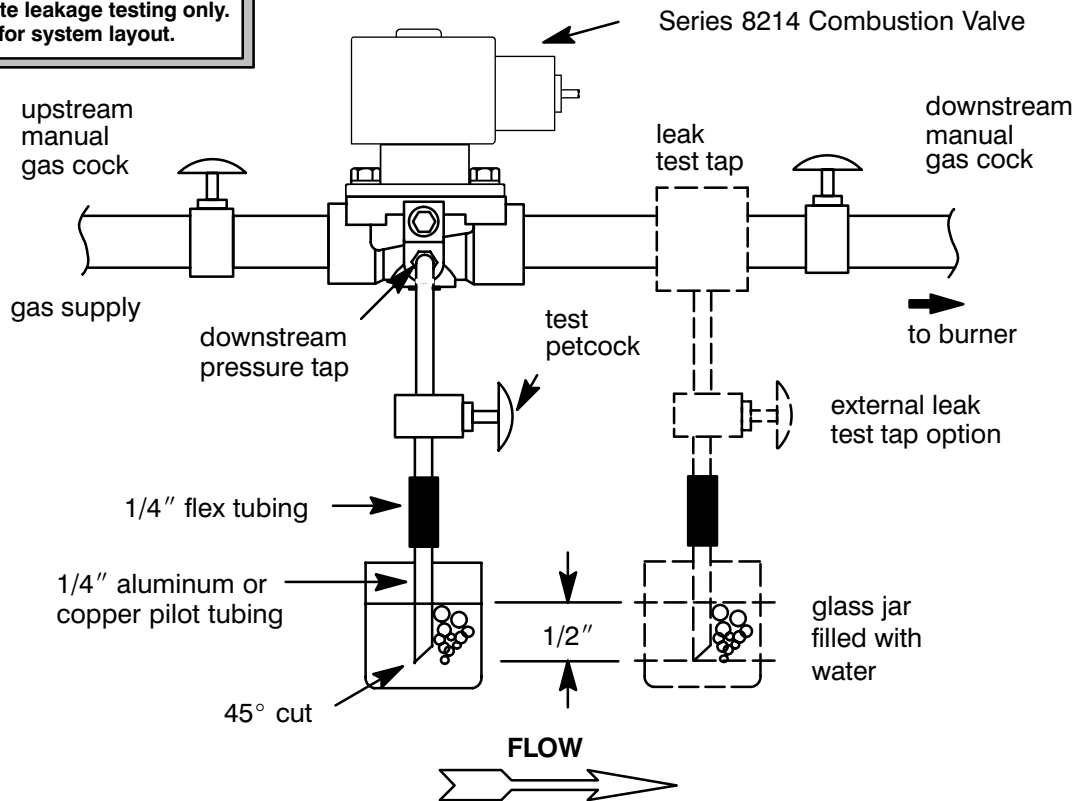

Figure 3. Testing for internal seat leakage.
Testing for Internal (Seat) Leakage (Refer to Figure 3)
4. Shut off the upstream manual gas cock and de-energize valve. Remove the plug from the leak test tap or downstream pressure tap in the valve body. Connect leak test equipment with the test petcock in the closed position, see Figure 3.